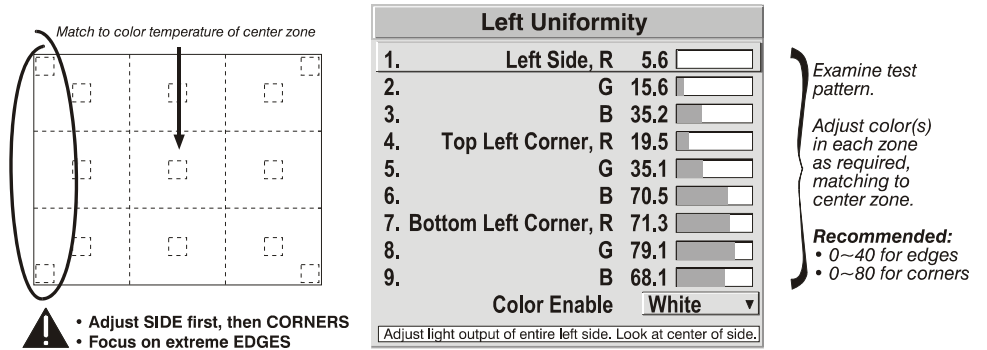

Figure 3.31. Match Zones to Center Color Temperature
- 2b)** Return to the *Brightness Uniformity* menu. Beginning with the screen that exhibits the most obvious color shift(s), for each edge that exhibits a noticeably different color temperature from the center, select the corresponding *Uniformity* adjustment menu—*Left, Right, Top* or *Bottom*. For example, if any part of the left side is too blue, too red or too green, go to the *Left Uniformity* menu and adjust the colors (i.e., change their light output) until all portions of the left side closely match the center color temperature. Adjust an edge first (focusing on its center), and then adjust its corners. See **Figure 3.31**.